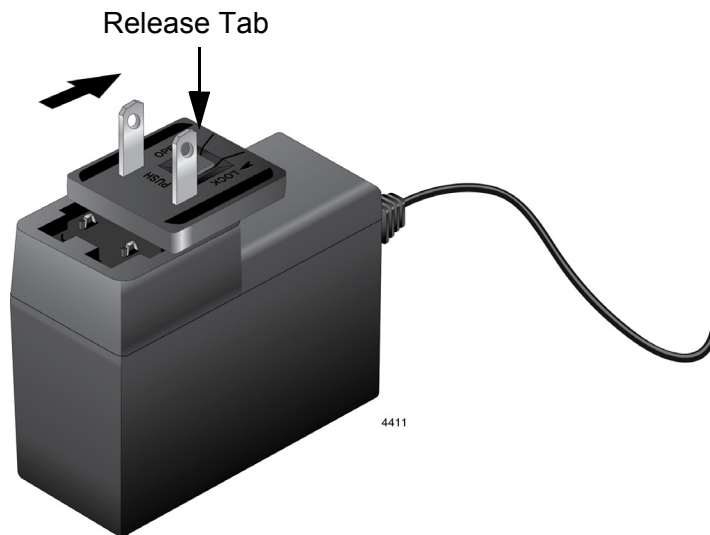

Figure 13. Removing an AC Plug from the AT-TQ0091 AC/DC Power Adapter
5. Check the AC plug on the AC/DC Power Adapter to see if it is the correct plug for your region. If it is not the correct plug, remove it by pushing down on the release tab and sliding it from the slot on the adapter. Refer to Figure 13.